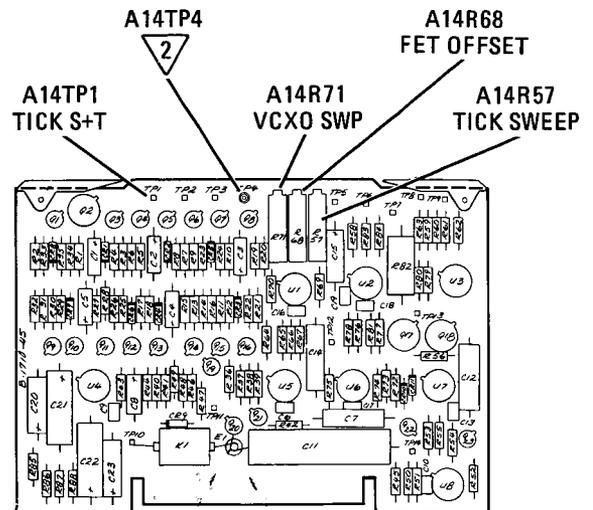

Figure 5-43. Tuning Stabilizer Control Adjustment Locations
- d. Connect digital voltmeter across A14TP1 TICK S + T (high DVM input) and A14TP4  (low DVM input). (See Figure 5-43.)